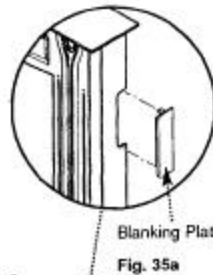

Fig. 35a
1. Prior to fitting the trim it is necessary to fit the blanking plate (found in the kit) in the cut-out at the top right hand side. Press the plate into the cut-out until the locating tabs snap into position (Fig. 35a).